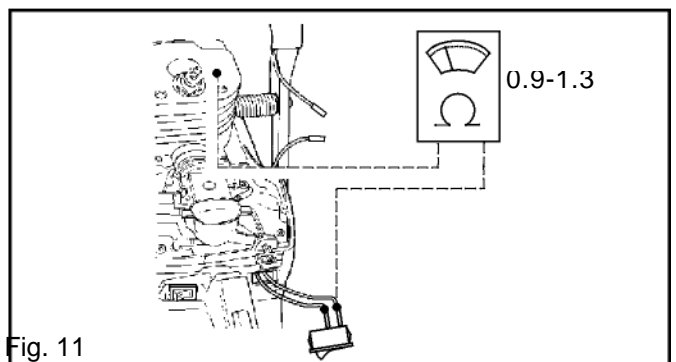

Fig. 11
6. Connect the ohmmeter as shown in fig. 11 and measure the resistance in the generator. The ohmmeter should read between 0.9 - 1.3 . If the reading is higher or lower , replace the generator.